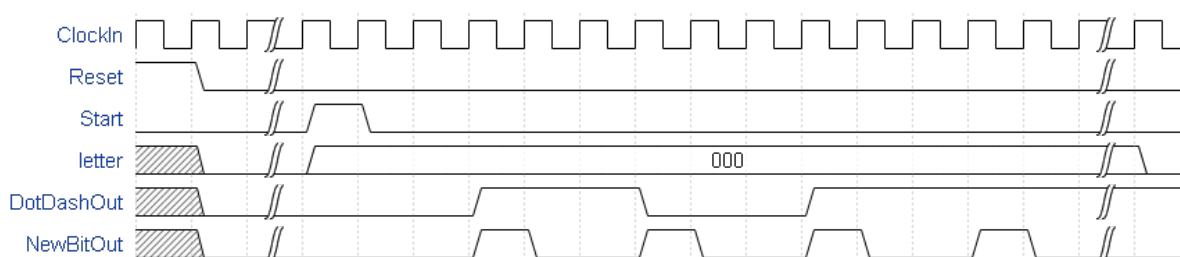

Figure 3: Timing diagram for Part 3
Figure 3 shows a timing diagram of how your circuit should operate, for the letter *A*. The letter is selected by the **Letter** input using 000 for *A*, 001 for *B*, etc. The Morse code for the letter is output when the **Start** signal is asserted, for 1 clock period. Figure 3 shows the first 4 bits of *A* being flashed, for a very low clock frequency. Using the clock in the marker or the FPGA will cause the **DotDashOut** signal to stay 0 or 1 for many more clock cycles.
1. There may be many cycles between **Reset** being de-asserted and **Start** being asserted. This is shown with the two wavy lines in Figure 3.